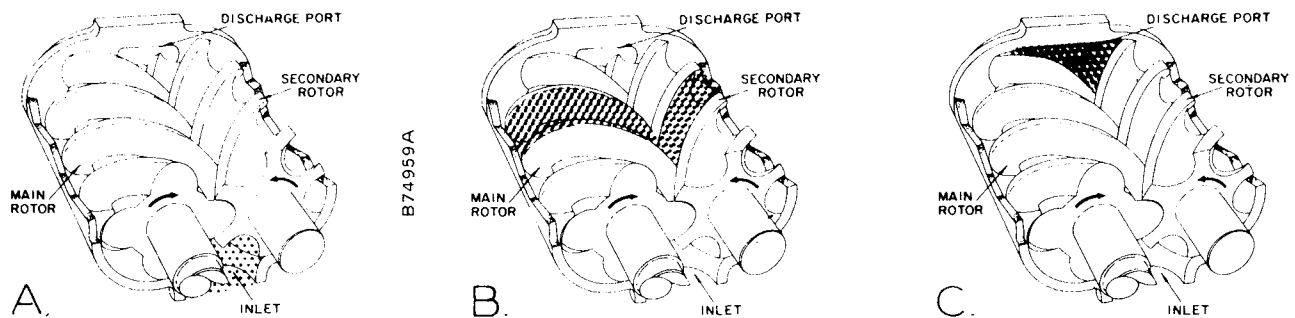

FIGURE 1-1
COMPRESSION PRINCIPLE (Figure 1-1) - Compression is accomplished by the main and secondary rotors synchronously meshing in a one-piece cylinder. The main rotor has four (4) helical lobes 90° apart. The secondary rotor has six (6) matching helical grooves 60° apart to allow meshing with main rotor lobes.
The air inlet port is located on top of the compressor cylinder near the drive shaft end. The discharge port is near the bottom at the opposite end of the compressor cylinder. *Figure 1-1 is an inverted view to show inlet and discharge ports.* The **compression cycle** begins as rotors unmesh at the inlet port and air is drawn into the cavity between the main rotor lobes and the secondary rotor grooves (A). When the rotors pass the inlet port cutoff, air is trapped in the interlobe cavity and flows axially with the meshing rotors (B). As meshing continues, more of the main rotor lobe enters the secondary rotor groove, normal volume is reduced and pressure increases. Oil is injected into the cylinder by proprietary means to remove the heat of compression and seal internal clearances. The Electra-Saver II utilizes Gardner-Denver's exclusive Intensive Injection System to feed coolant into the compression chamber through dozens of small injection ports. This greatly improves the rate of heat exchange between the air/oil mixture with most of the injection and heat transfer occurring where the air has reached its highest pressure and greatest temperature. Hot spots in the compression cycle are eliminated. Volume reduction and pressure increase continues until the air/oil mixture trapped in the interlobe cavity by the rotors passes the discharge port and is released to the oil reservoir (C). Each rotor cavity follows the same "fill-compress-discharge" cycle in rapid succession to produce a discharge air flow that is continuous, smooth and shock-free.